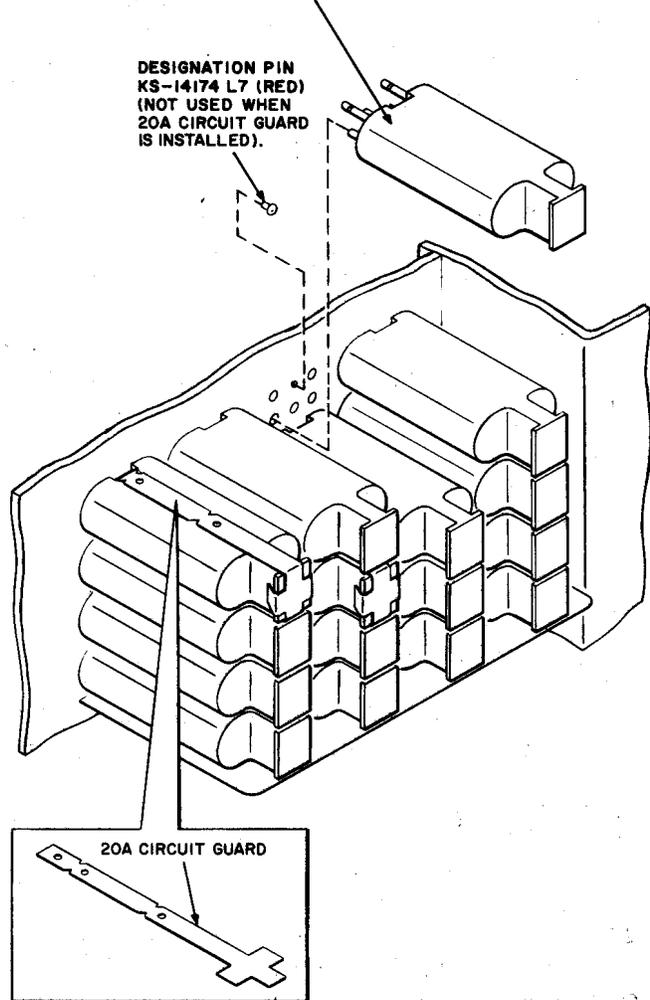

Fig. 2—Use of 20A Circuit Guard KS-14174 Designation Pin and Red Cased Protector Unit for 302-Type Connector
4.01 **Designation Pin KS-14174 L7:** Each jack on the protector frame associated with a special service line is designated by inserting a KS-14174 L7 designation pin (red) into the hole provided for this purpose and using a protector unit with a red case (Fig. 2). Section 201-221-102 provides information for the designation pin colors and protector unit colors to be used with different classes of special service.
4.02 **20A Circuit Guard:** The 20A circuit guard (shown installed in Fig. 2) prevents accidental removal of protector units from the protector frame connectors. It is intended to be used on circuits requiring Special Service Protection (SSP) or Special Safeguarding Measures (SSM) protection. The guard is designed to be used with the 3A, 4A, or 5A protector units.